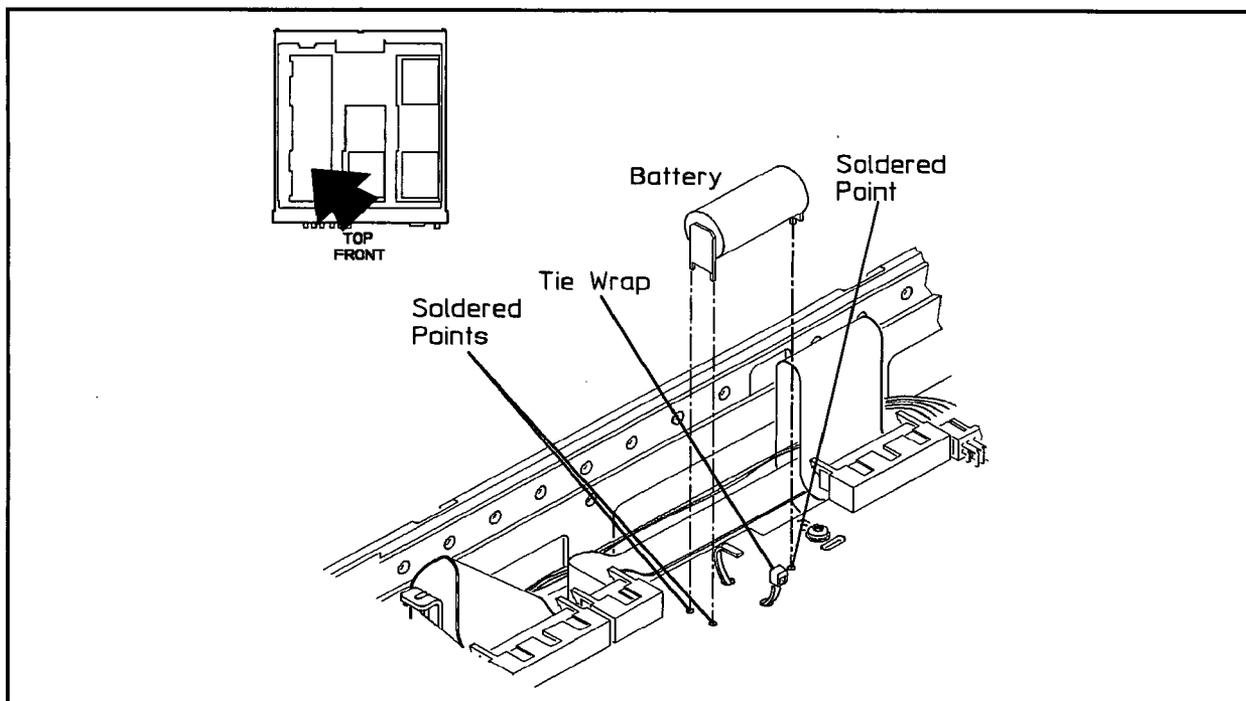

Figure 5-21. Microprocessor Board Battery Removal
3. Cut the tie-wrap connecting the battery, BT1, to the microprocessor assembly, A3. See Figure 5-21.